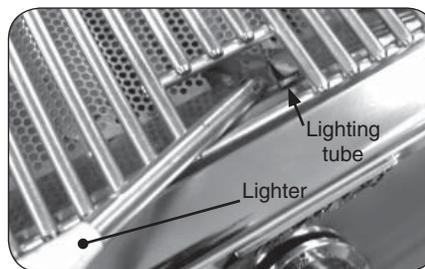

Fig. 19-2 - Manual lighting
**CAUTION:** Always wait five (5) minutes for gas to clear after any unsuccessful lighting attempt.
2. Insert either a burning long-barrel butane lighter or a burning long-stem match through the cooking grid opening to the top of the lighting tube. (Fig. 19-2). For backburners, hold the flame against the surface of the backburner. For sideburners, hold the flame against the burner.
4. If the burner does not light within five (5) seconds of turning the control knob, **immediately depress the knob and turn the valve to OFF**. **WAIT FIVE (5) MINUTES** before repeating steps 2 through 4 of the MANUAL LIGHTING instructions.